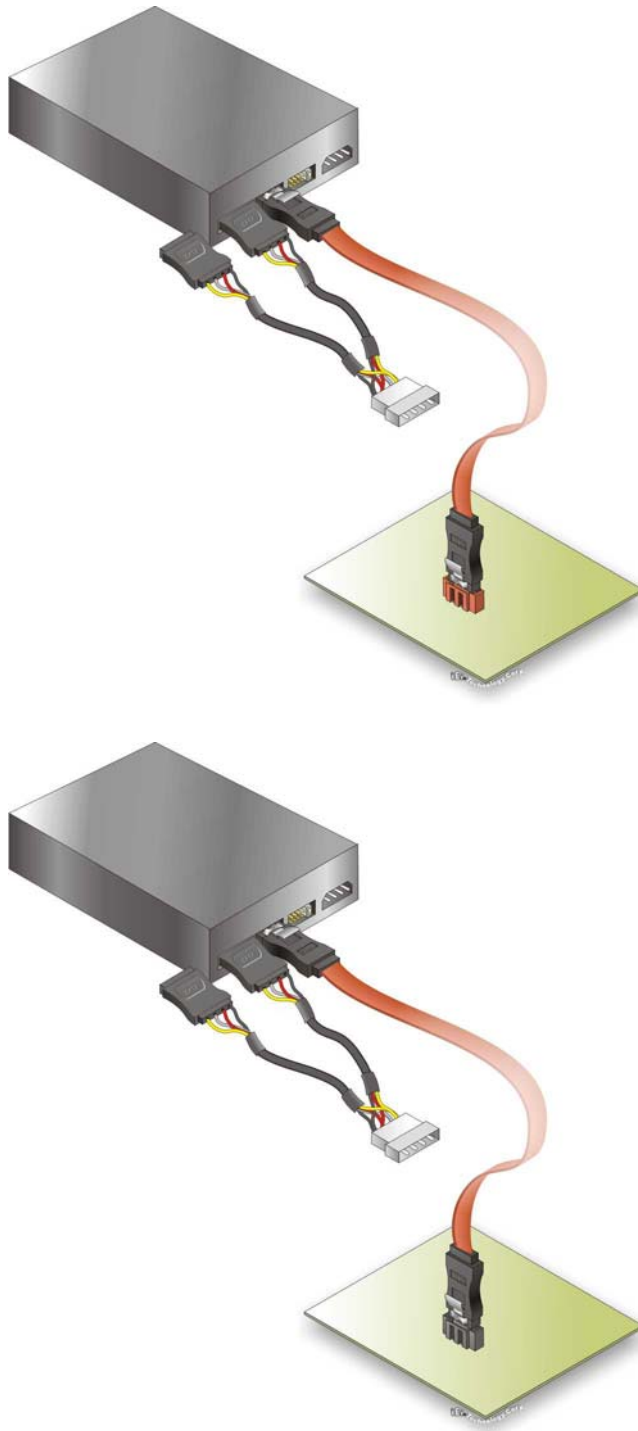

Figure 4-17: SATA Power Drive Connection
- Step 3:** **Connect the cable to the SATA disk.** Connect the connector on the other end of the cable to the connector at the back of the SATA drive. See **Figure 4-17**.
- Step 4:** **Connect the SATA power cable.** Connect the SATA power connector to the back of the SATA drive. See **Figure 4-17**.